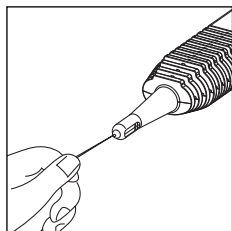

fig. 5
If steam is emitted from the end of the hose there is a blockage in the tool or extension tube which was fitted when water or steam discharged from underneath. This can be caused by a particle of limescale and is usually worse with the crevice tool. It can be removed by inserting a pin (fig. 5) into the outlet hole when not fitted to the hose. Rinse the inside and outside of the tool under the tap.
3. Plug into the mains and turn on the ON/OFF power switch. Plug into the mains and turn on the ON/OFF power switch. Press button (A - fig. 5). To run off all the descaler solution, the button can be held down using a Velcro band.